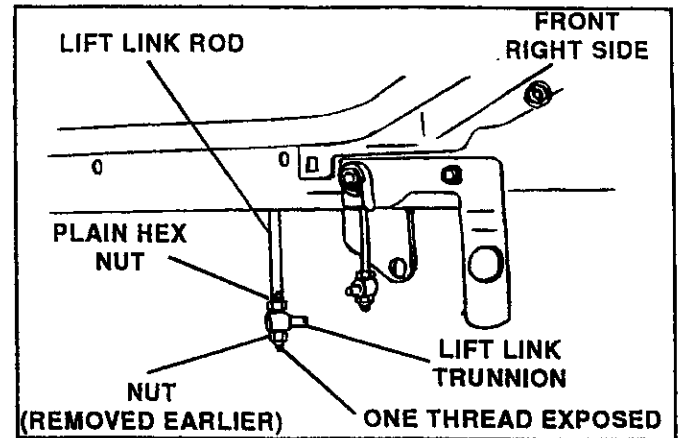
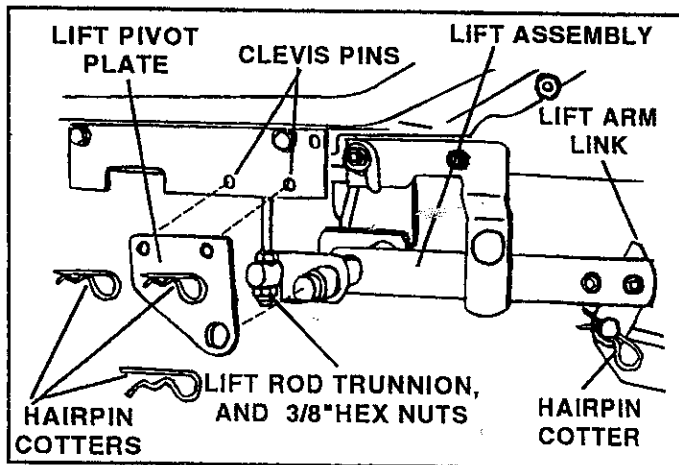

FIGURE 16
FIGURE 32
- Assemble $3/8"$ plain hex nut, lift rod trunnion and lock nut (removed from tractor lift link rod in tractor preparation section) onto right and left hand lift link rods until one thread is below bottom of nut. Tighten nuts lock trunnion in place. See figure 16.
2. Refer to figure 32 below and;
- D. Remove lift rod trunnions and hex nuts from each lift link rod. See Figure 32 and figure 16 on page 7.
Frame Brackets do not require removal for re-assembly of mower deck. See figure 32.